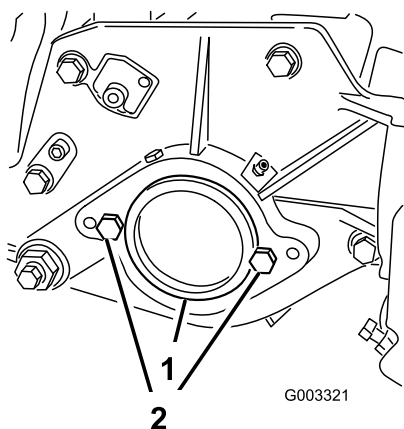

Figure 17
2. On right end of cutting unit, remove the plastic plug from the bearing housing (Figure 17).
3. Remove the 2 cap screws from the right side plate (Figure 17).
2. Cap screw (2)
5. Loosely install the 2 reel motor mounting cap screws to the left side plate of the cutting unit (Figure 17).